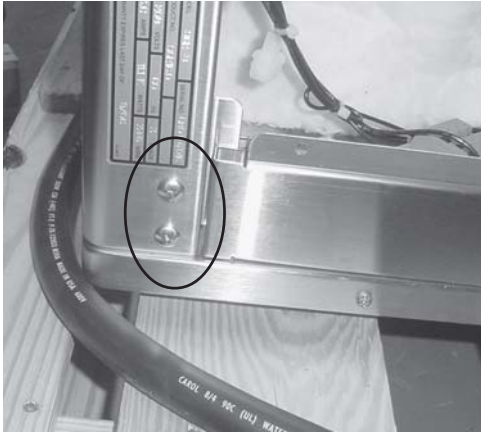

Figure 1
8. Replace side panels, mounting the stacking brackets to each side of the units, as shown in Figure 1 (page 2-3), using the screws removed in step 4.
1. Using a Phillip's head screwdriver, remove the 8, 1/4-20 x 1 in. screws in the corners of the unit. Figure 1.